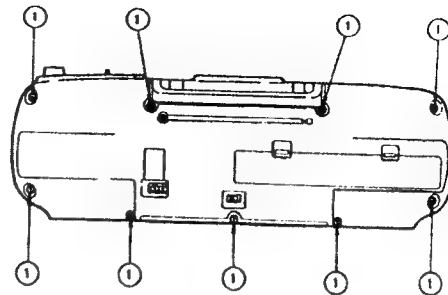

Fig. 2-1-1
- 2) Remove the nine cabinet retaining screws ① from the rear panel. (See Fig. 2-1-1)